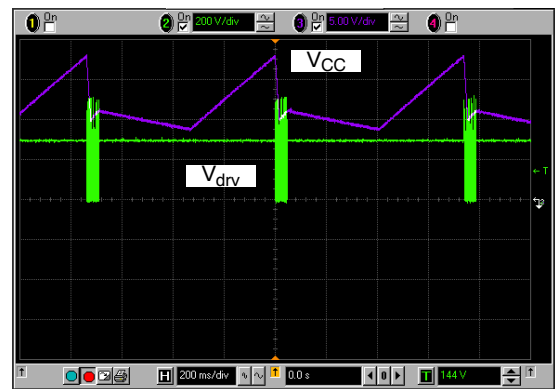

Figure 18. Hiccup Occurs with the B Version Only, the A Version Being Latched
2. B version: the circuit stops its output pulses and the auxiliary V_{CC} decreases via the controller own consumption ($\approx 600 \mu\text{A}$). When it touches the $V_{\text{CC(min)}}$ point, the circuit re-starts and attempts to crank the power supply. If it fails again, an hiccup mode takes place (Figure 18).